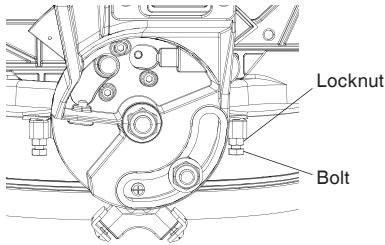

Fig. 16
- (1) Fully extend the sub fence (B) completely to the left, and then pull the set pin (A) towards the front of the machine.
**NOTE: When retracting the set pin (A), it may be necessary to shift the miter saw upper arm assembly to the left/right to release the holding pressure.**
- (2) Loosen the bevel lock handle and tilt the gear case completely to the left.
- (3) Using a combination square, check to see if the blade is 45° to the table.
- (4) To adjust, tilt the gear case to 0°, loosen the locknut, and turn the bolt in or out to increase or decrease the angle as shown in Fig. 16.
- (5) Tilt the gear case back to the left, and recheck alignment.
- (6) Repeat steps until the blade is 45° to the table. Once alignment is achieved, tighten locknut and bevel lock handle when alignment is achieved.